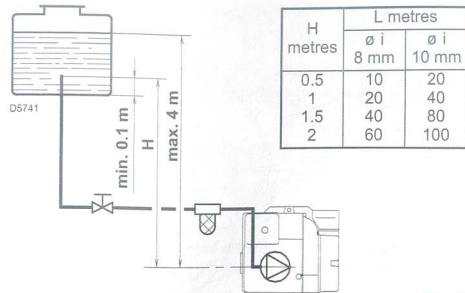
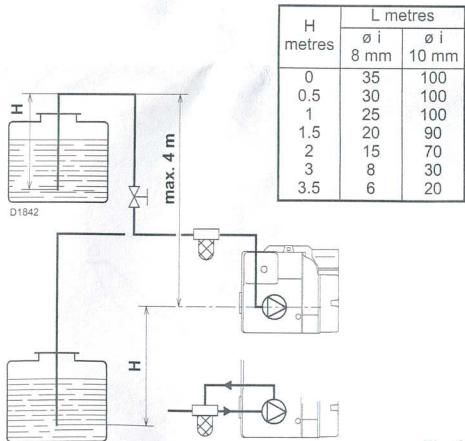
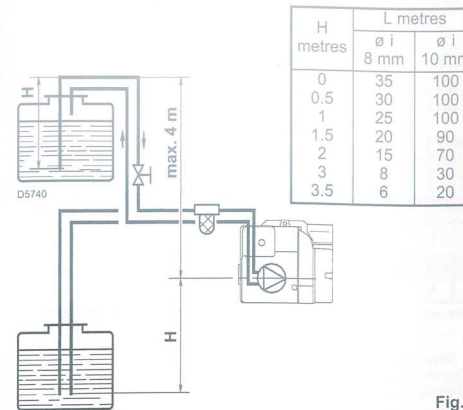
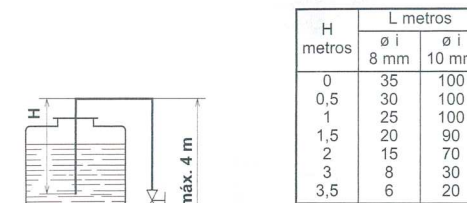

Fig. 2
Fig. 3
Fig. 4
Fig. 3
- Only necessary with one-pipe systems (Fig. 2). In the system of Fig. 2, just loosen the connection of the vacuumeter 4) (Fig. 5) and wait for the fuel to come out.
- In the systems of Fig. 3 and Fig. 4, the air is expelled automatically following burner start-up.
Key (Fig. 2, Fig. 3 and Fig. 4)
- En las instalaciones de las Fig. 3 y Fig. 4, el aire es expulsado automáticamente después del arranque del quemador.